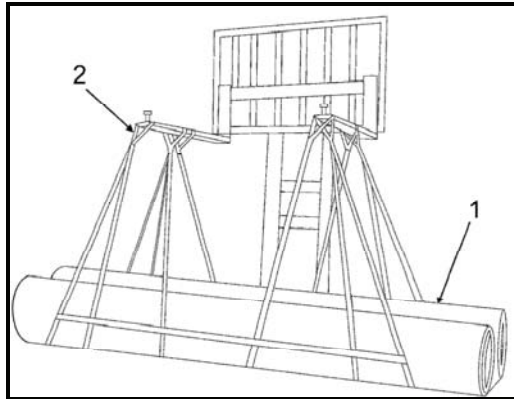

Figure 17. Lifting the Collapsible Fuel Tank.
1. Locate the lifting straps (Figure 17, Item 2) around tank (Figure 17, Item 1). Carefully insert fork lift forks (10,000-lb. capacity) through the loops of lifting straps (Figure 17, Item 2).
2. Transport tank (Figure 17, Item 1) to the center of the desired installation site.